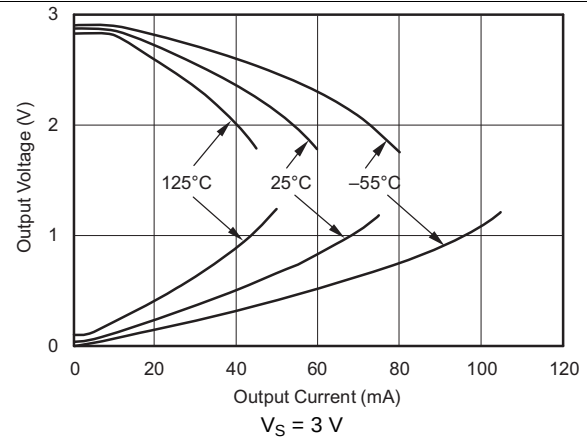
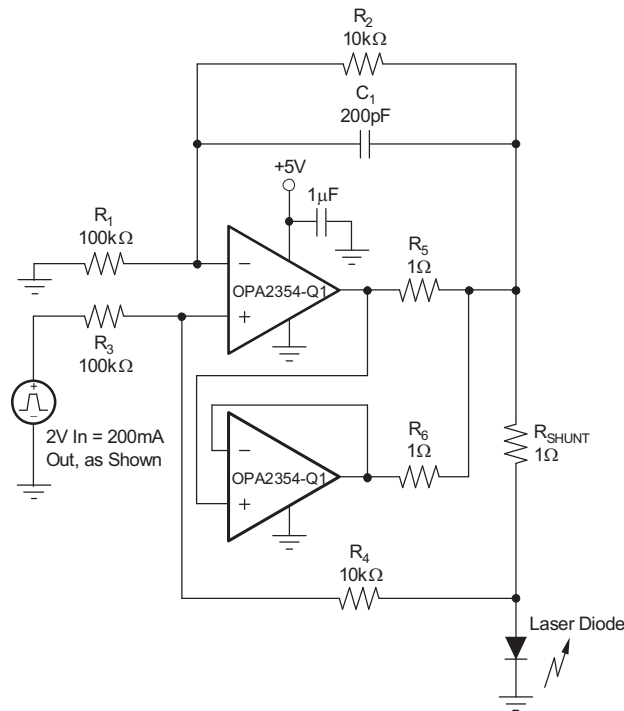

FIG 20. Output Voltage Swing vs Output Current
FIG 31. Parallel Operation
(1) See typical characteristic graph *Output Voltage Swing vs Output Current* (Figure 20).
(2) Not production tested
The device uses a class-AB output stage with common-source transistors to achieve rail-to-rail output. For high-impedance loads ($> 200\ \Omega$), the output voltage swing is typically 100 mV from the supply rails. With 10- Ω loads, a user can achieve a useful output swing while maintaining high open-loop gain; see Figure 20 (*Output Voltage Swing vs Output Current*).
For maximum reliability, TI does not recommend running a continuous DC current greater than $\pm 100\text{ mA}$; see Figure 20 (*Output Voltage Swing vs Output Current*). Operate the OPAx354-Q1 family of devices in parallel to supply continuous output currents greater than $\pm 100\text{ mA}$, as shown in Figure 31.